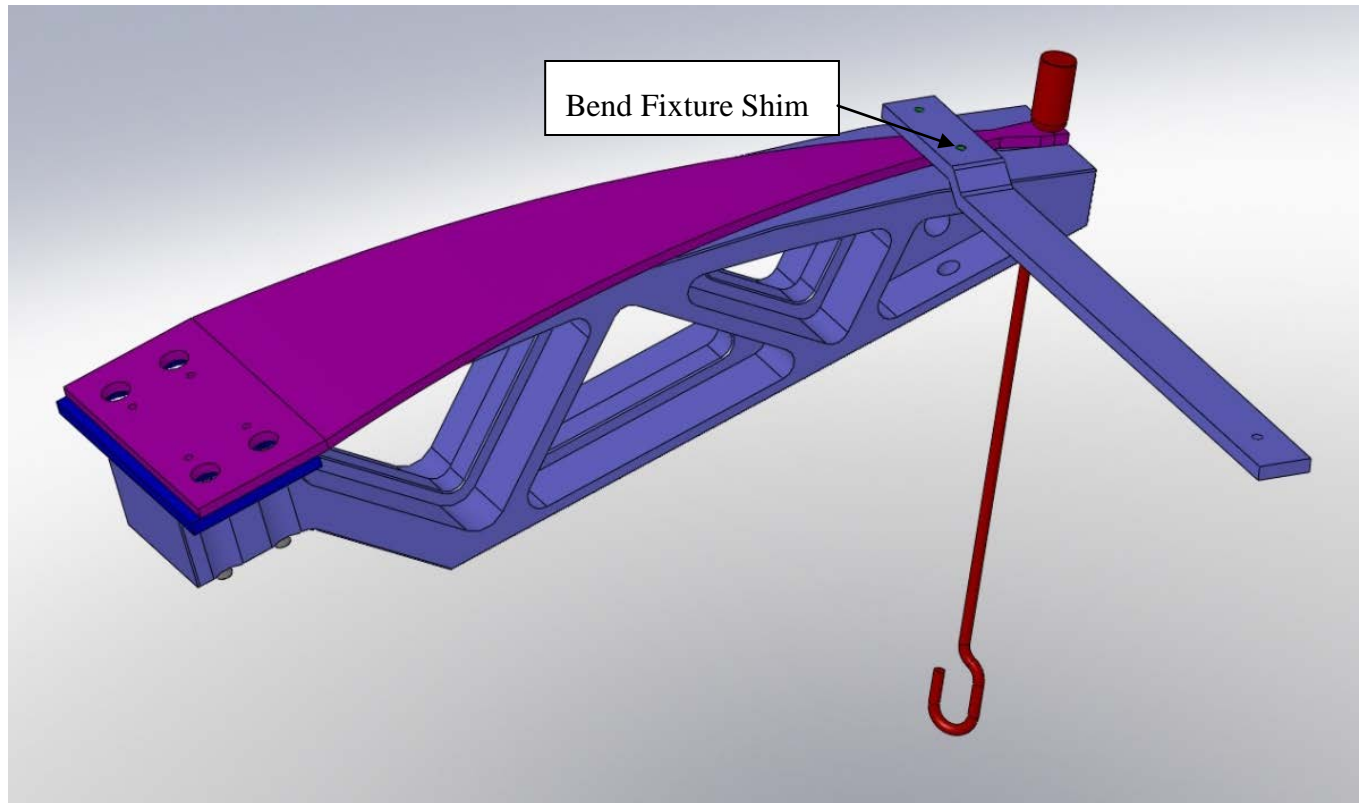

Figure 19: Preloaded Spring Blade Restrained with the Bend Fixture Shim
7. After the spring is bent to match the curvature of the Bend Fixture, secure the tip of the blade spring to the Bend Fixture by attaching the Bend Fixture Shim (D1101341) with two Titanium Threaded Studs (D1300622) and N-1024-NA nuts placed through the clearance holes of the Bend Fixture, as shown in Figure 19. Torque these two 10-24 bolts to 23 in-lbs.